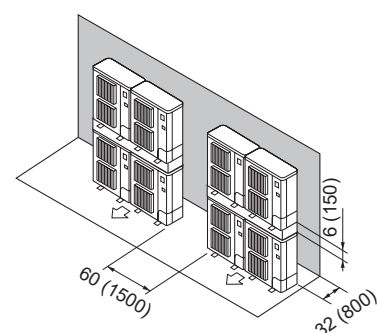

Fig. 2-17
- ⑦ Stacked unit arrangement (Fig. 2-17)